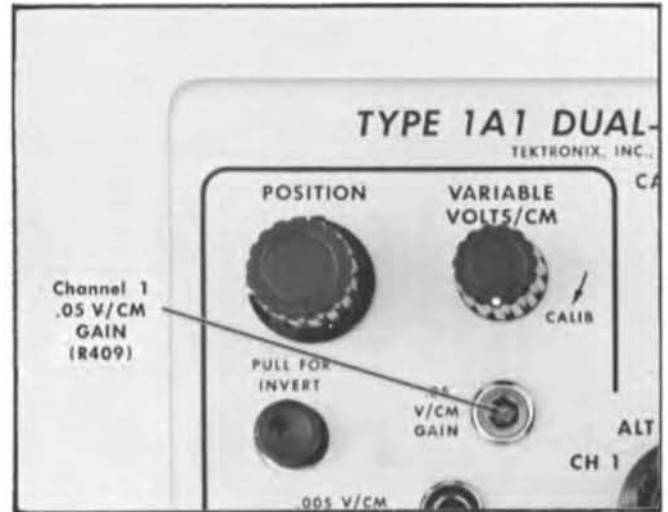

Fig. 7-10. Location of Channel 1 .05 V/CM GAIN adjustment.
- f. ADJUST—Channel 1 .05 V/CM GAIN control (see Fig. 7-10) for proper amplitude.